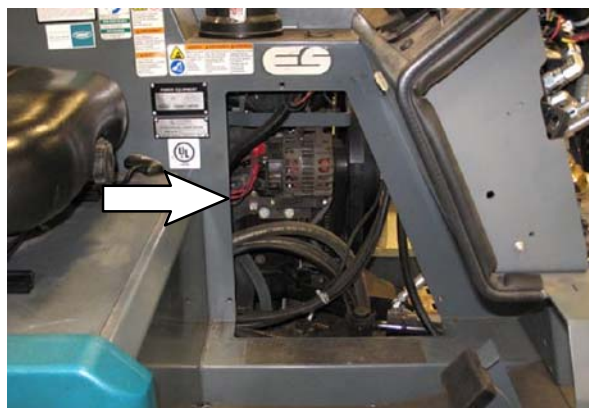

FIG. 1
2. Remove the engine access panel from the operator compartment. Set the access panel and hardware aside. (Fig. 1)